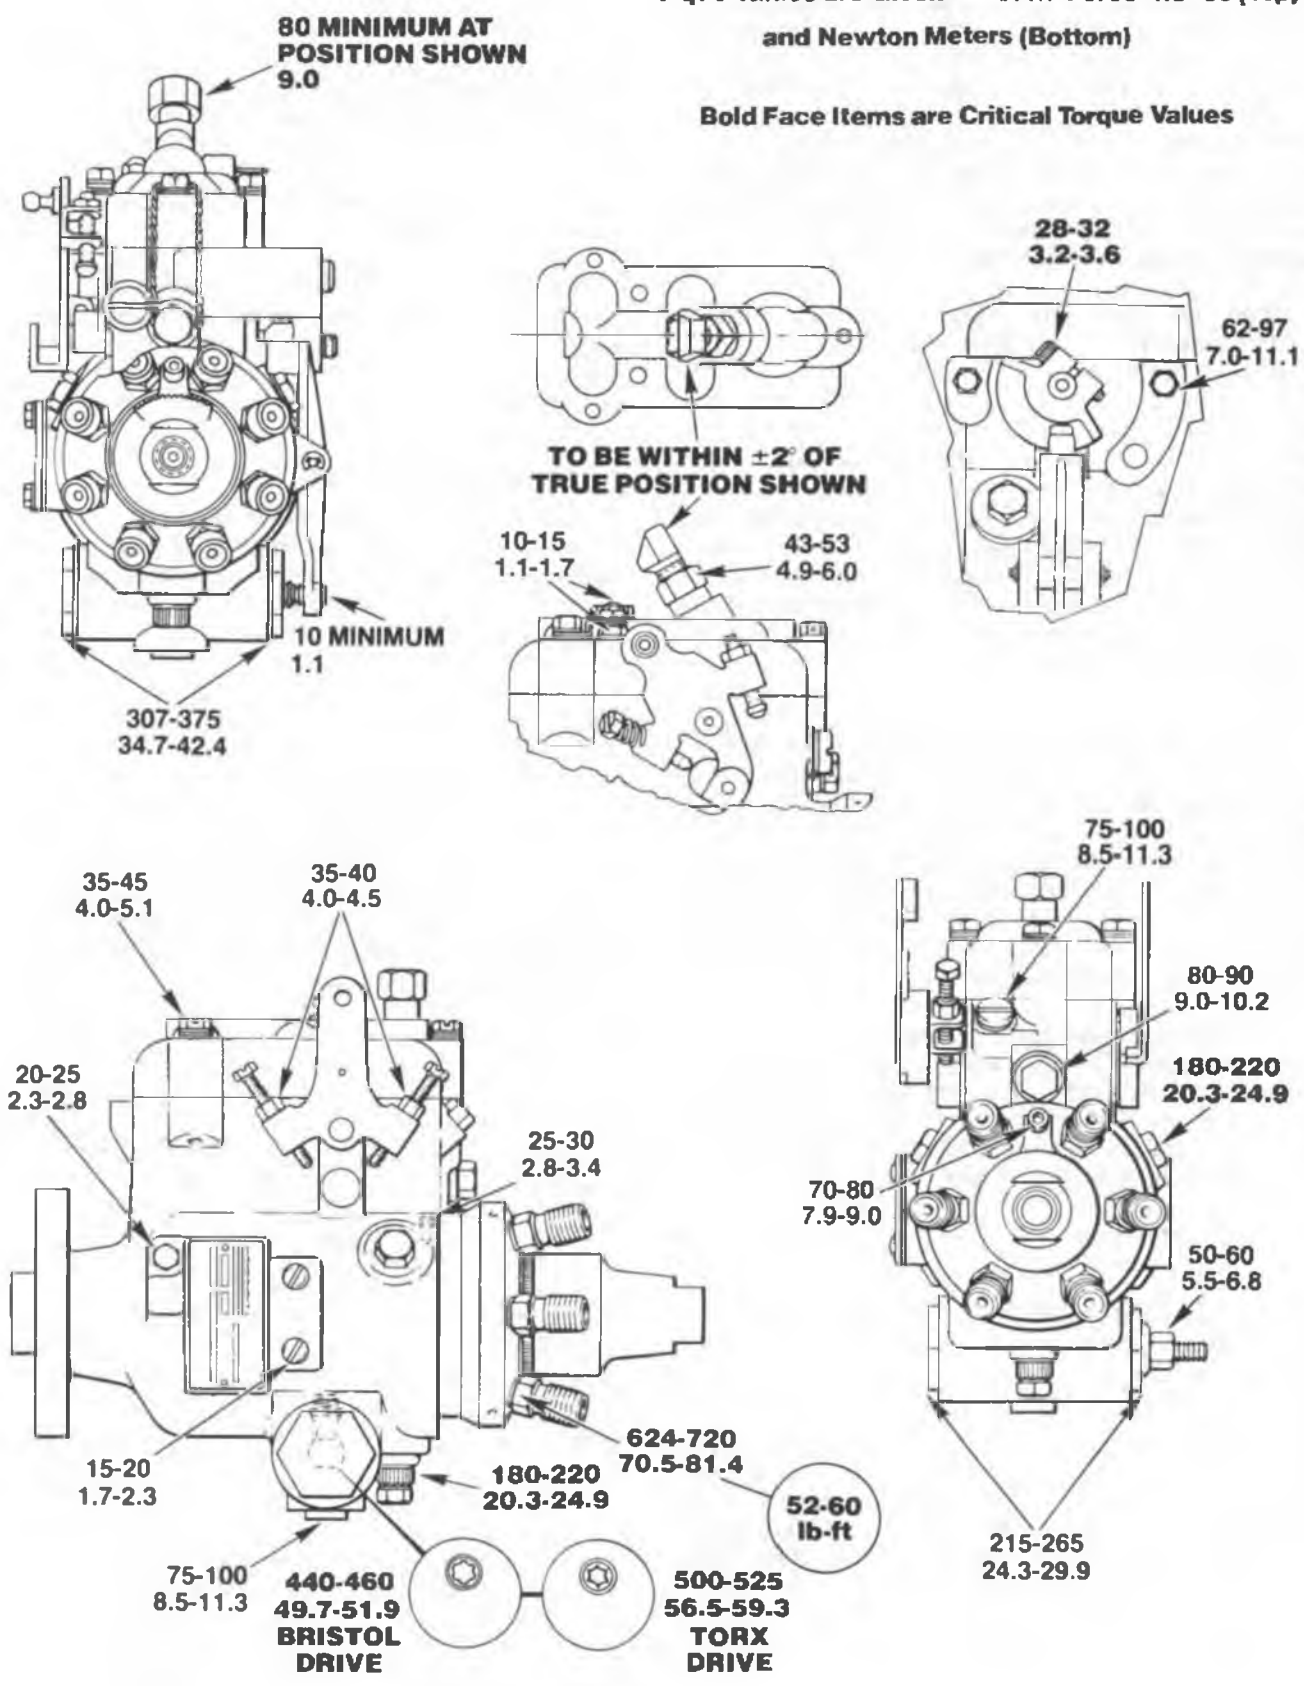

Fig. 2-9 Torque Values
13. Move the cover rearward and downward into position, being careful not to cut the seal and reinstall the cover screws. Be careful not to drop or lose flat washer and internal lock washer with each screw. Flat washer must be against pump cover. Torque to 3.7 N·m (33 in. lbs.). See Fig. 2-9.